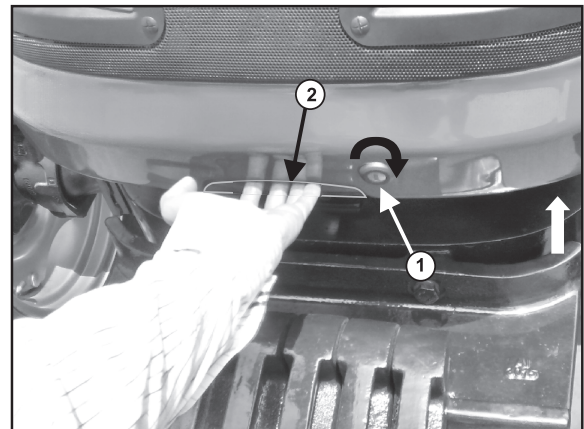

Fig. 4-3
Insert the key into the key hole (1) provided at the front of bonnet as shown in (Fig. 4-3).
Lift the bonnet with the help of the slot (2) (Fig. 4-3) provided. The bonnet will automatically lift up to the preset height with the assistance of gas spring.